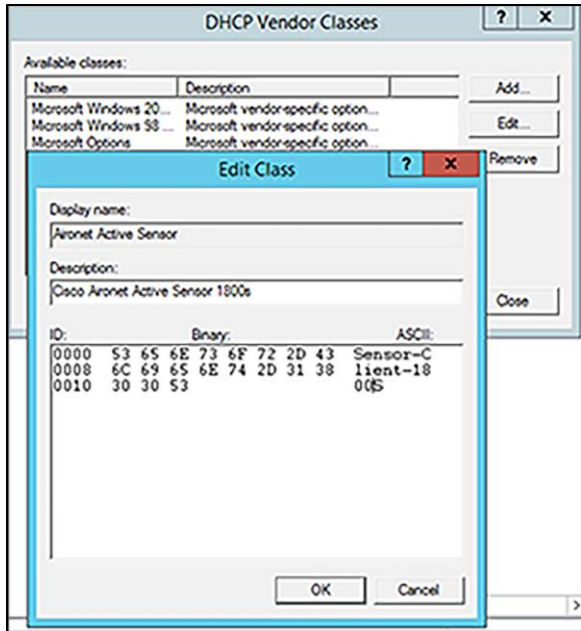

Figure 33.
2. Click **Add**, enter the following, then click **OK** and then **Close** (**Figure 33**).